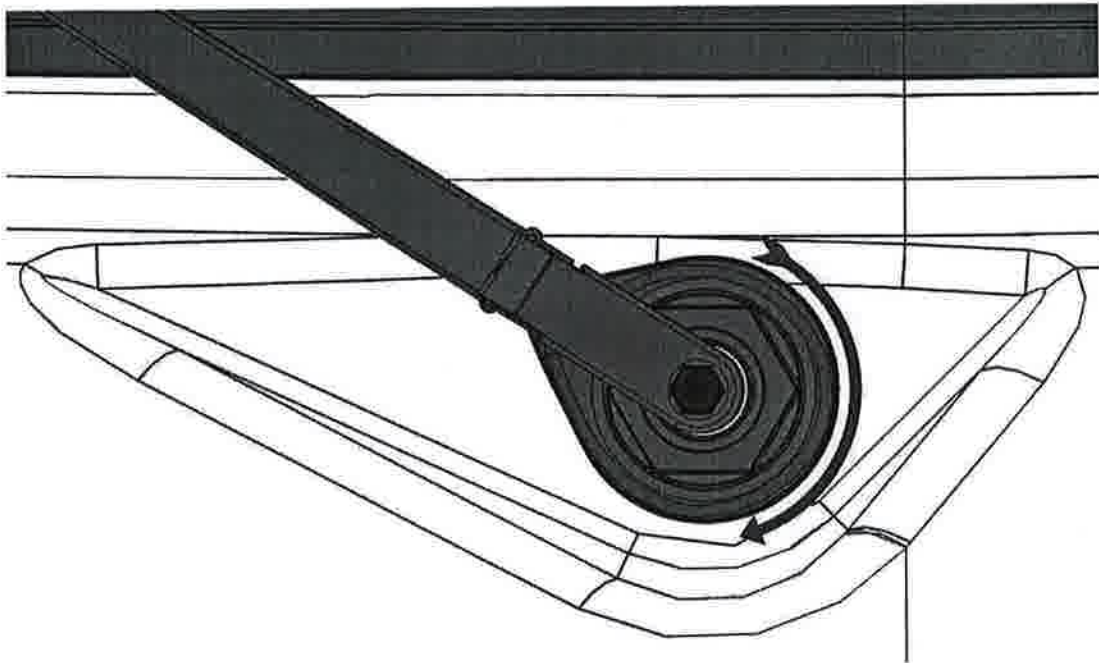
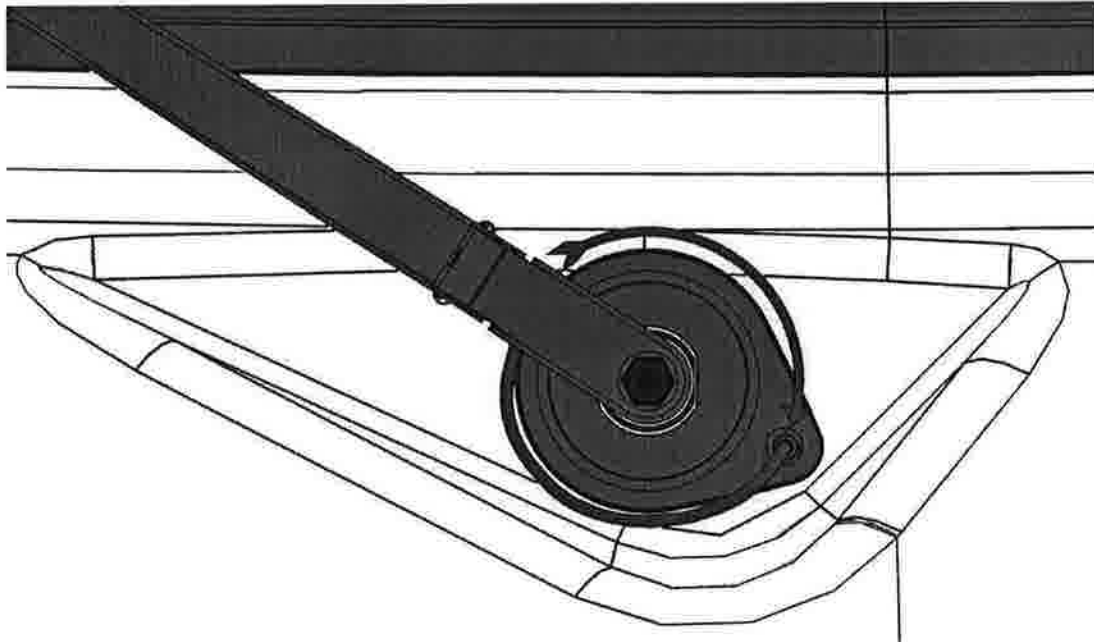

Fig. 4
Fig. 5
- b) Route the hose as shown in figure 4 and figure 5.